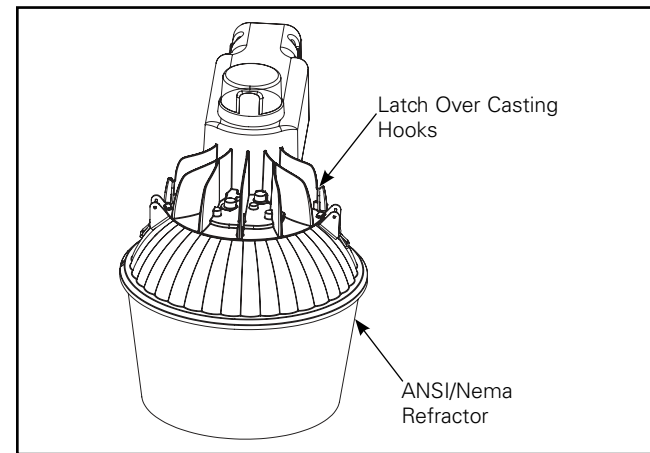

Figure 10.
1. Place latches over latch hooks in housing and snap latches down to secure refractor to housing. (Figure 10.)